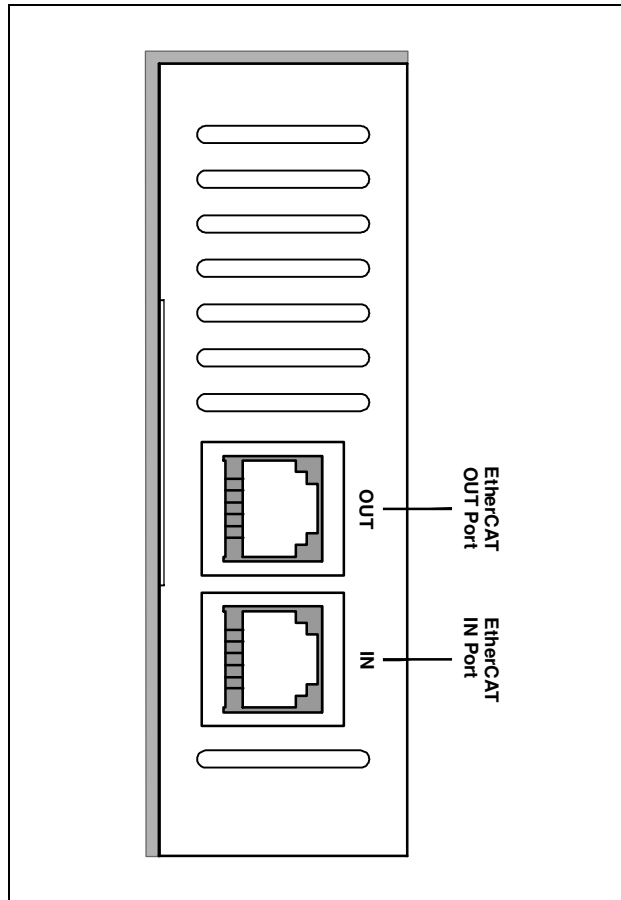

Fig. 6 – EtherCAT connectors (CSD ET series drives high side view).
6.3-Fig. 6 shows the position of EtherCAT connectors located on the high side of the case.